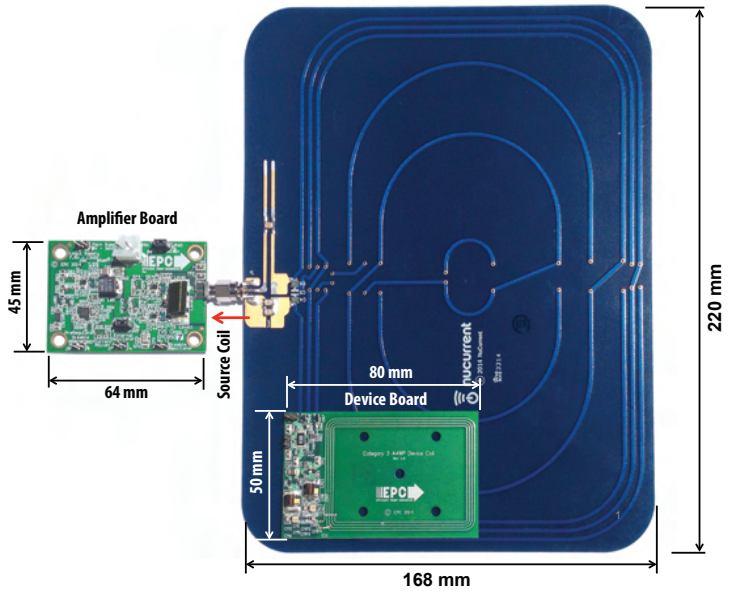
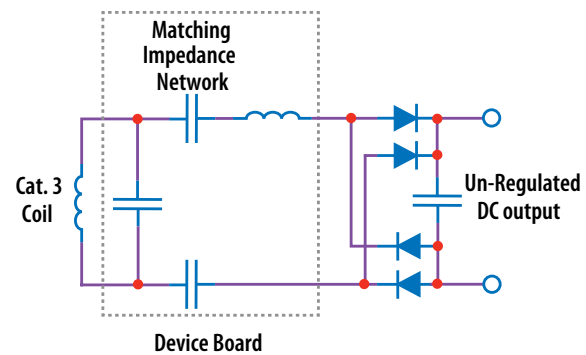
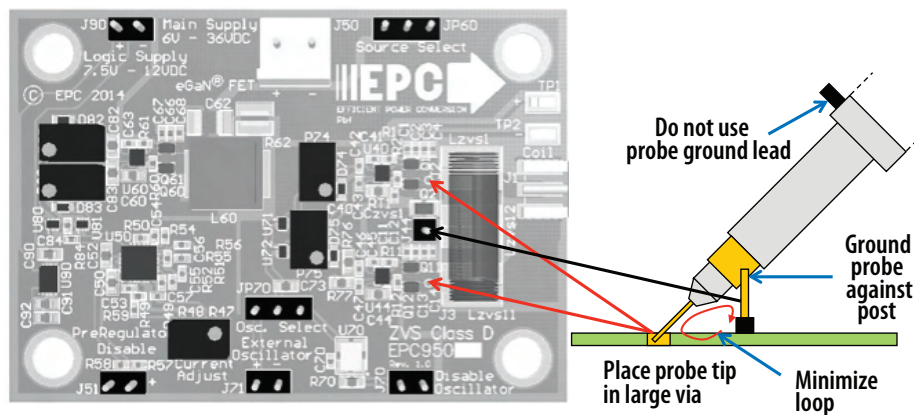

Figure 1: Mechanical Assembly of the EPC9111 Wireless Power Transfer Demonstration System
Figure 4: Basic Schematic of the A4WP Category 3 Device Board
Figure 8: Proper Measurement of the Switch Nodes Using the Hole and Ground Post
The EPC9111 wireless power system comprises three boards (shown in figure 1) namely:
The assembly of the EPC9111 Wireless Demonstration kit is simple and shown in figure 1. The source coil and amplifier have been equipped with reverse polarity SMA connectors. The source coil is simply connected to the amplifier.
6. While observing the oscilloscope adjust P71 or P77 for the rising edge of the waveform so achieve the green waveform of figure 4. Repeat for the falling edge of the waveform by adjusting P72 or P78.
Figure 4 shows the basic schematic for the device coil which is category 3 A4WP compliant. The matching network includes both series and shunt tuning. The matching network series tuning is differential to allow balanced connection and voltage reduction for the capacitors.
The EPC9111 demonstration system is easy to set up and evaluate the performance of the eGaN FET in a wireless power transfer application. Refer to figure 1 to assemble the system and figures 4 through figure 8 for proper connection and measurement setup before follow the testing procedures.
NOTE. When measuring the high frequency content switch-node (Source Coil Voltage), care must be taken to avoid long ground leads. An oscilloscope probe connection (preferred method) has been built into the board to simplify the measurement of the Source Coil Voltage (J2 and J3 as shown in figure 8).